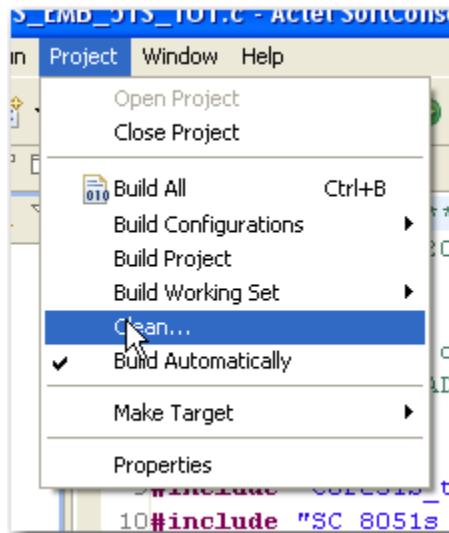

Figure 1-10 · Selecting a Clean Build
2. Perform a project Clean by selecting **Project** from the SoftConsole menu, then selecting **Clean** (Figure 1-10).